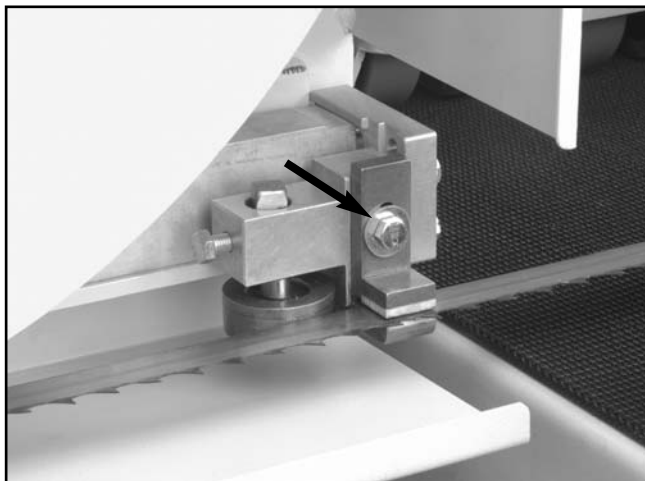

Figure 18. Guide block adjustment bolt.
1. Loosen the guide block adjustment bolt shown in **Figure 18**.